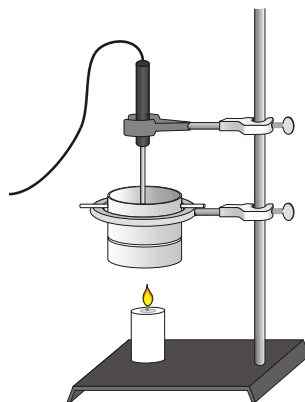

Figure 1
4. Set up the apparatus shown in Figure 1.